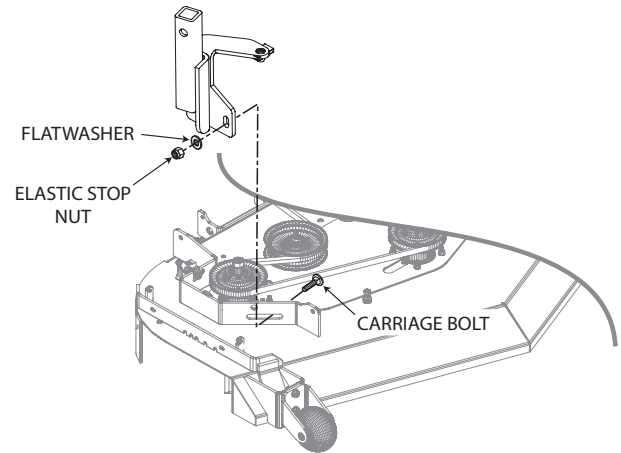

Figure 2-4. Blower Mounting Post Installation
8. Install the blower mounting post to the deck using 3/8-16 x 1-1/4" carriage bolts (p/n 04003-11), 3/8" flatwashers (p/n 04041-07) and 3/8-16 elastic stop nuts (p/n 04021-09). For STT52V & STTII52V use 1/2-13 x 1-1/2" bolts, 1/2" flatwashers and 1/2-13 elastic stop nuts. Do not fully tighten the hardware at this time. See Figure 2-4.